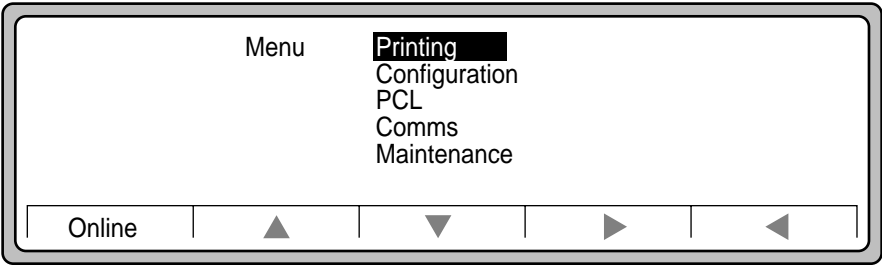

Figure 4-32 List of Submenus
- 2. The list of choices is shown in Figure 4-32.